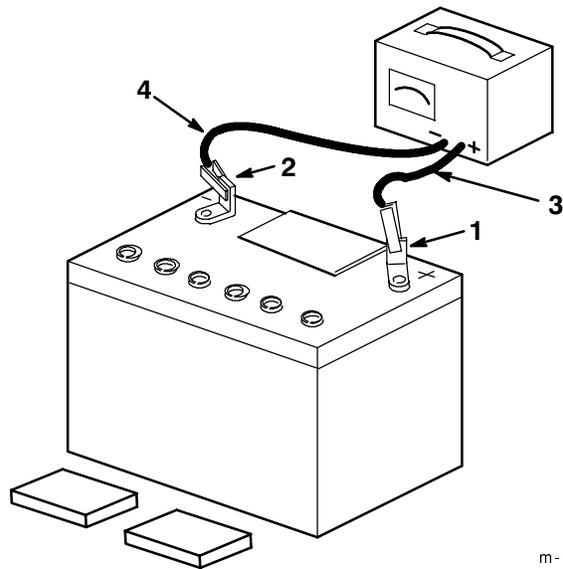

Figure 7
8. Leave the covers off and connect a 3 to 4 amp battery charger to the battery posts (Fig. 7). Charge the battery at a rate of 4 amperes or less for 4 hours (12 volts).
9. When the battery is fully charged, disconnect the charger from the electrical outlet then from the negative and positive battery posts (Fig. 7).